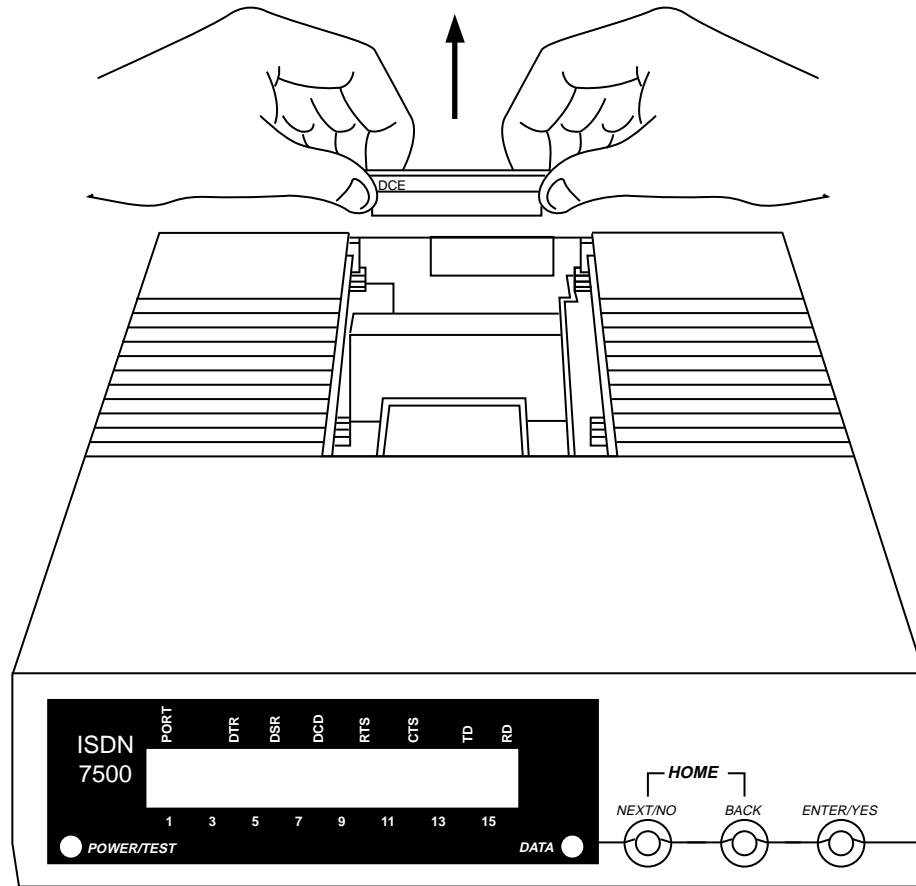

FIGURE 8-11. Pulling up the Flip Board (if necessary)
6. If the arrow points to **DCE**, you must reposition the board. See Figure 8-11.